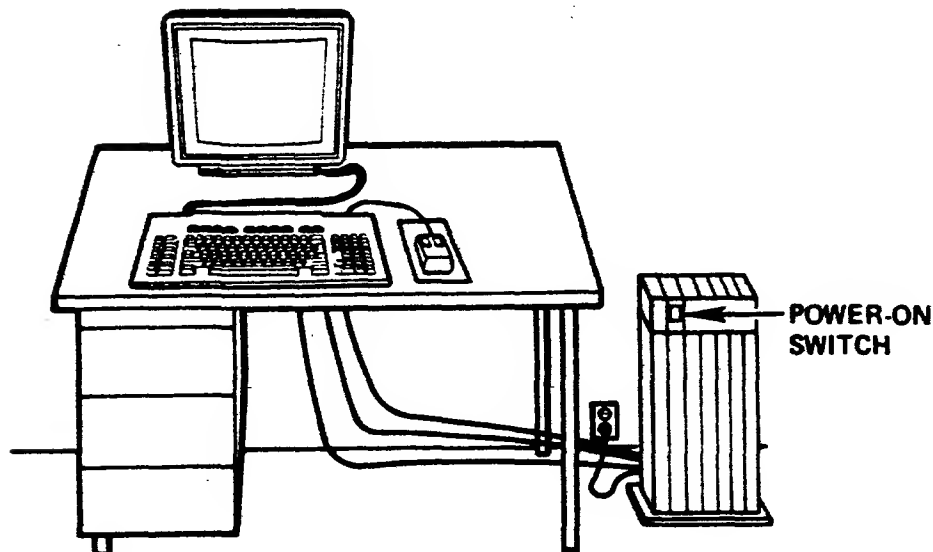

Figure 2-25. Powering On Processor
2. Insert the end of the power cord into the wall outlet and switch the power button on the processor unit to 1. This turns on the processor (Figure 2-25).